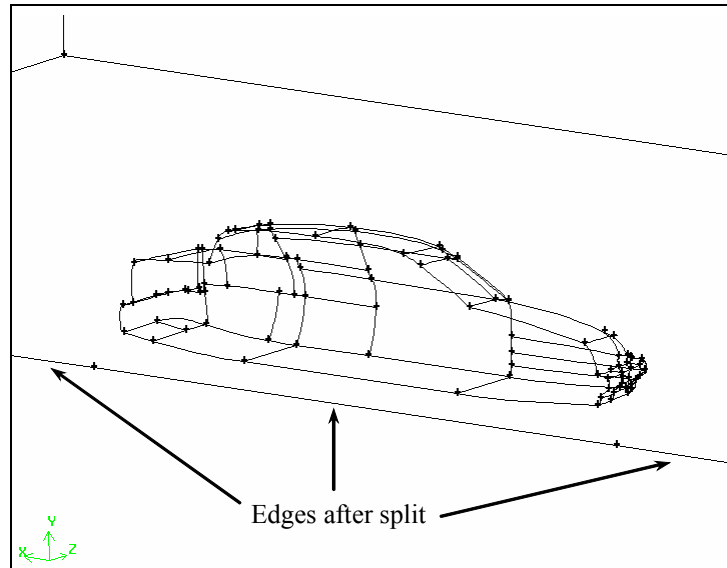

Figure 5-18: Bottom edge of symmetry plane is split into three edges
- c) Use the *Ctrl* key and the left mouse button to zoom in to the sedan and the line at the bottom of the symmetry plane, similar to the view shown in Figure 5-18.
The edge is split into two parts and a vertex is created near the front bumper of the sedan, as shown in Figure 5-18.
The edge will be split and a second vertex created near the rear bumper of the sedan, as shown in Figure 5-18.